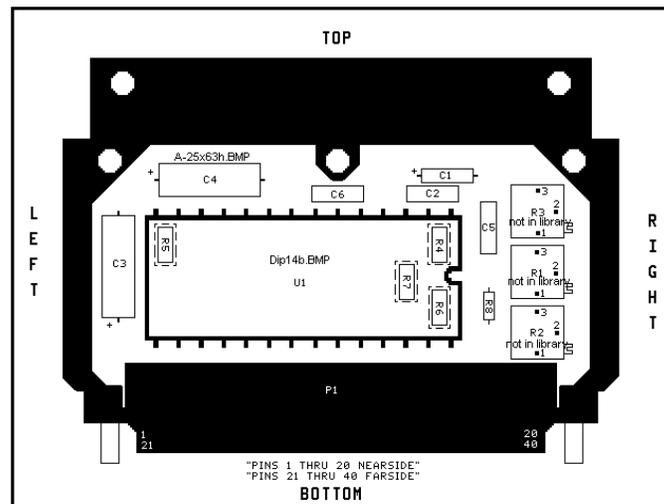

Figure 7. Example *Layout Worksheet*
3.3.2 Creating The Layout Worksheet. As the developer searches the Standard Library for each component, entries should be made on the hardcopy drawing of the UUT Layout file. This hardcopy of the Layout drawing will become the LAYOUT WORKSHEET. The developer should annotate beside each component on the layout drawing, the name of any existing library files which can be used for this SES. The developer should also make notes beside each component describing whether or not a library file exists, and if a bitmap file will need to be created. An example LAYOUT WORKSHEET is shown below in Figure 7.
In Figure 7 above, it can be seen that the developer has searched the Standard Component Library for components R1, R2, R3, U1, and C4. Resistors R1-R3 were not found in the library and the developer has labeled them "not in library". Because these resistors were not found in the Standard Library, custom drawings to depict them will have to be created by the developer and stored in the C:\TESTER directory. Integrated circuit U1 was found to be best depicted by the Standard Component Library bitmap called **Dip14b.BMP**, and was labeled accordingly by the developer on the worksheet. The results of the developer's library search for capacitor C4 is that it was found to be best depicted by the library bitmap called **A-25x63h.BMP**, and is so annotated on the worksheet. **This library search and Layout Worksheet annotating process must be completed for every component found on the UUT.**